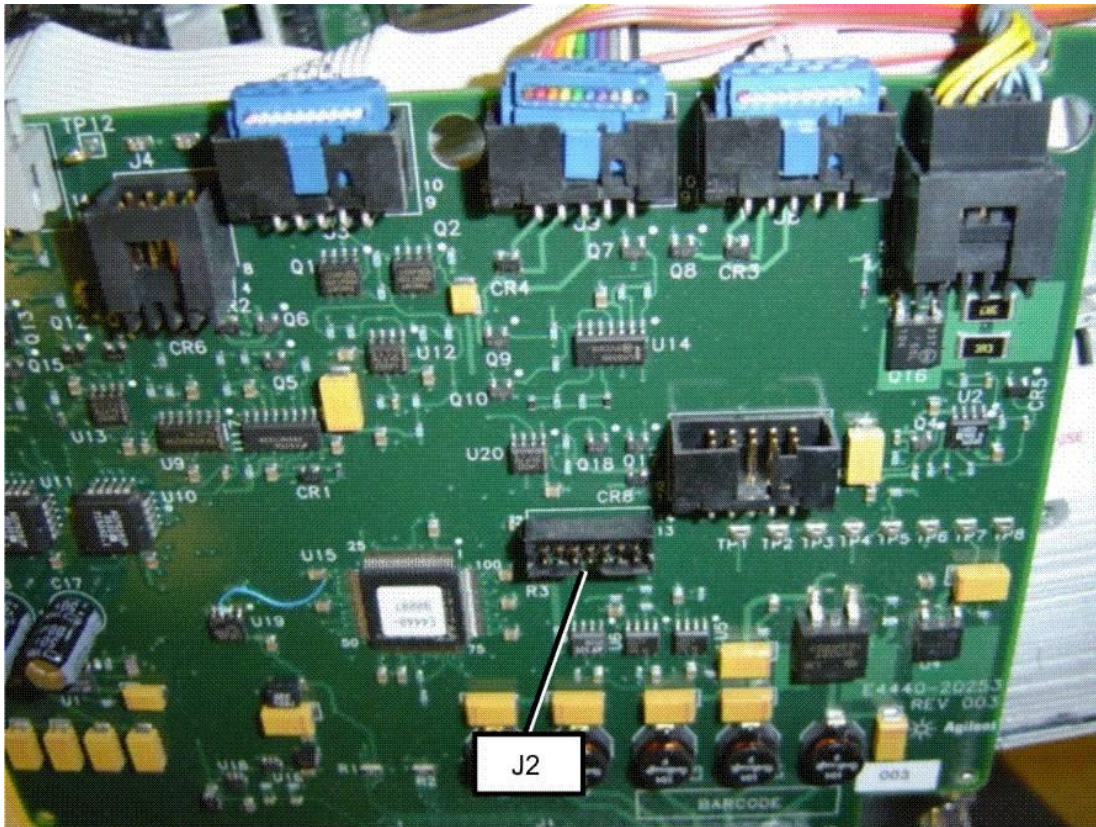

Figure 2. Location of J2 connector
- See Figure 2. Locate J2 near the middle of the board. Connect the ribbon cable from the Parallel Cable's pod to the JTAG connector, J2, on the A38 option Driver Assembly being careful to align the keying tab on the cable with the J2 header slot.